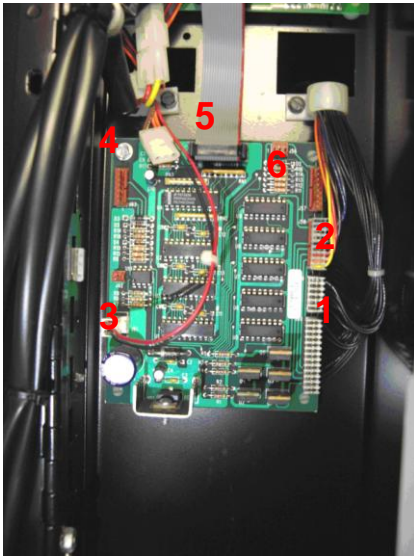

Figure 4
7. Remove the (1) J59 & J60 Motor, (2) J58 Gum & Mint and (3) J61 Power harness connections from the Interface PCB. See Figure 4.
8. Remove the Interface PCB by removing the (4) screw in the upper left-hand corner of the board then lift the (5) Interface harness and (6) PCB up and forward out of the machine. DO NOT DISCARD THE SCREW. See Figure 4, Index 4, 5 & 6.